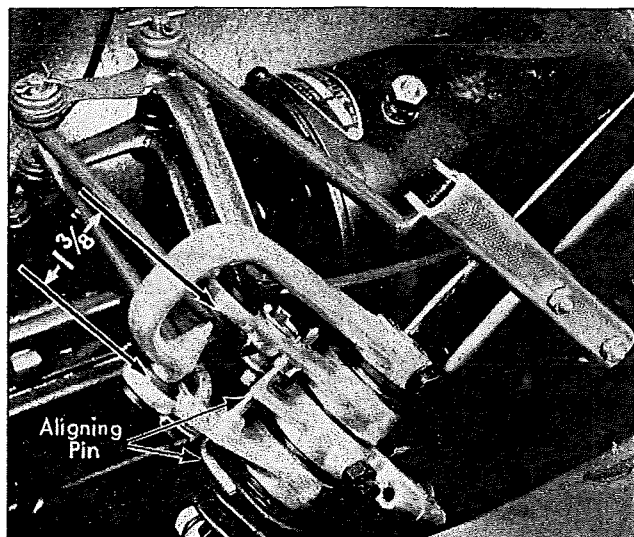

Fig. 27—Nash 1940
1940: (See Fig. 27.) (1)—To adjust the control rods, it is necessary to use a special aligning pin. (2)—